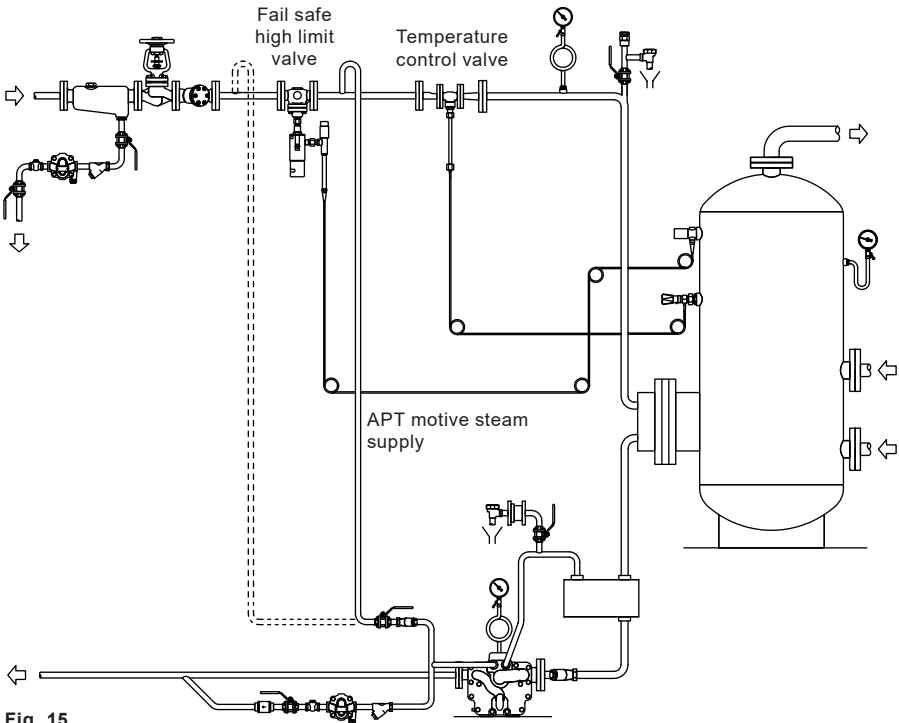

Fig. 15
When the APT14 is used to remove condensate from temperature controlled plant such as heat exchangers, it is recommended that the motive supply to the APT is taken from a point downstream of a fail safe high limit control valve, see Figure 15.
- 5.1** After ensuring the inlet and outlet pipe connections and motive/exhaust connections are coupled in accordance with Figures 15 and 16, slowly open the motive steam inlet line to supply pressure to the APT14, APT14HC or APT14SHC. Ensure the exhaust/balance line is open and not restricted in any way.